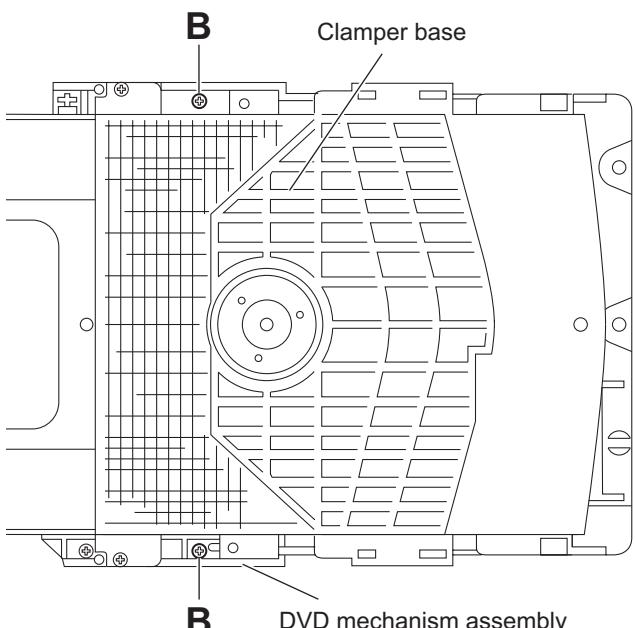

Fig.2
- (2) Remove the two screws **B** attaching the tramecha holder from top side of DVD mechanism assembly. (See Fig.2)